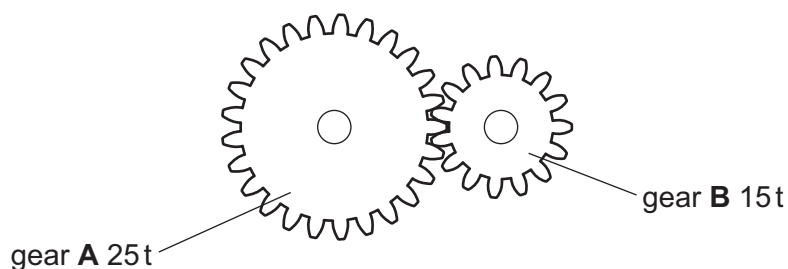

Fig. 10.3
- (ii) Fig. 10.3 shows a simple gear mechanism.